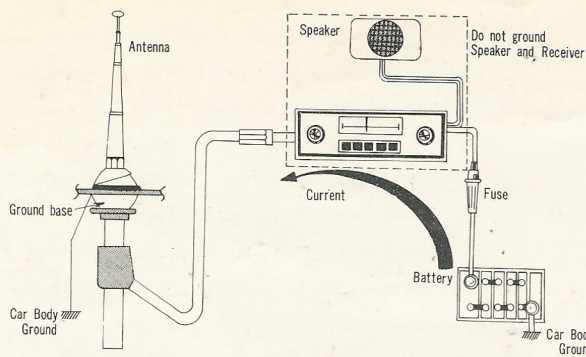

Fig. 4
3. If no sound comes from the radio, the antenna is not properly grounded therefore polish area around the base of the antenna where it meets the car's body. See Fig. 4.